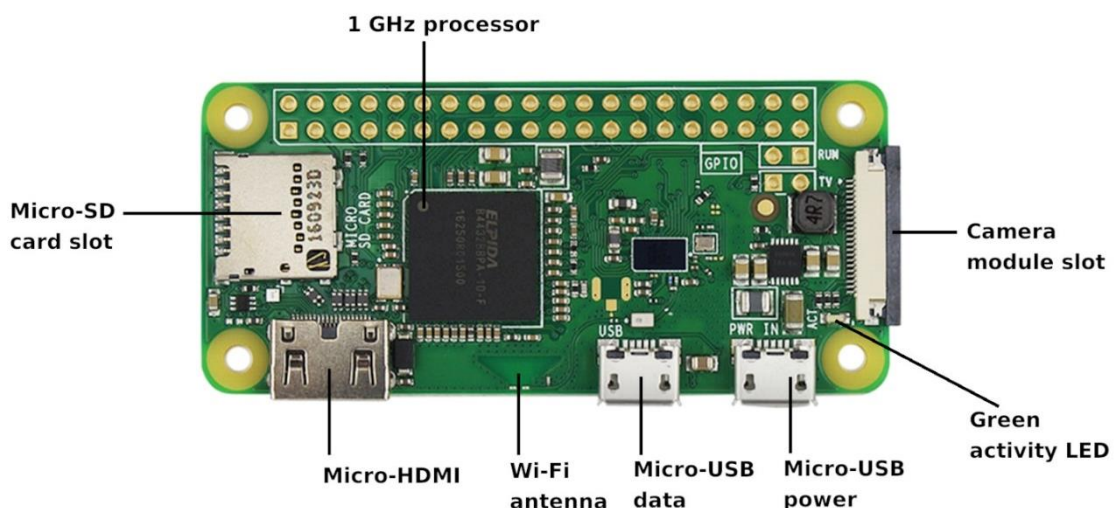

Figure 9. Raspberry Pi Zero (W) connectivity
- Once the two text files are copied on the SD card, remove it carefully and insert it into the Raspberry Pi Zero (W). Bootup the Raspberry by attaching the USB cable to the micro-USB power port (Fig. 9) and the power bank. Note that the Raspberry has two micro-USB connectors. The power connector is located just next to the camera connector (Camera module slot) on the short edge of the Pi. The other micro-USB connector (Micro-USB data) is used for accessories and should not be connected to the power outlet. Once powered on, the green activity LEDs will blink. After a few seconds the Raspberry will automatically connect to one of the Wi-Fi networks that were specified in the wpa_supplicant.conf file (see above).